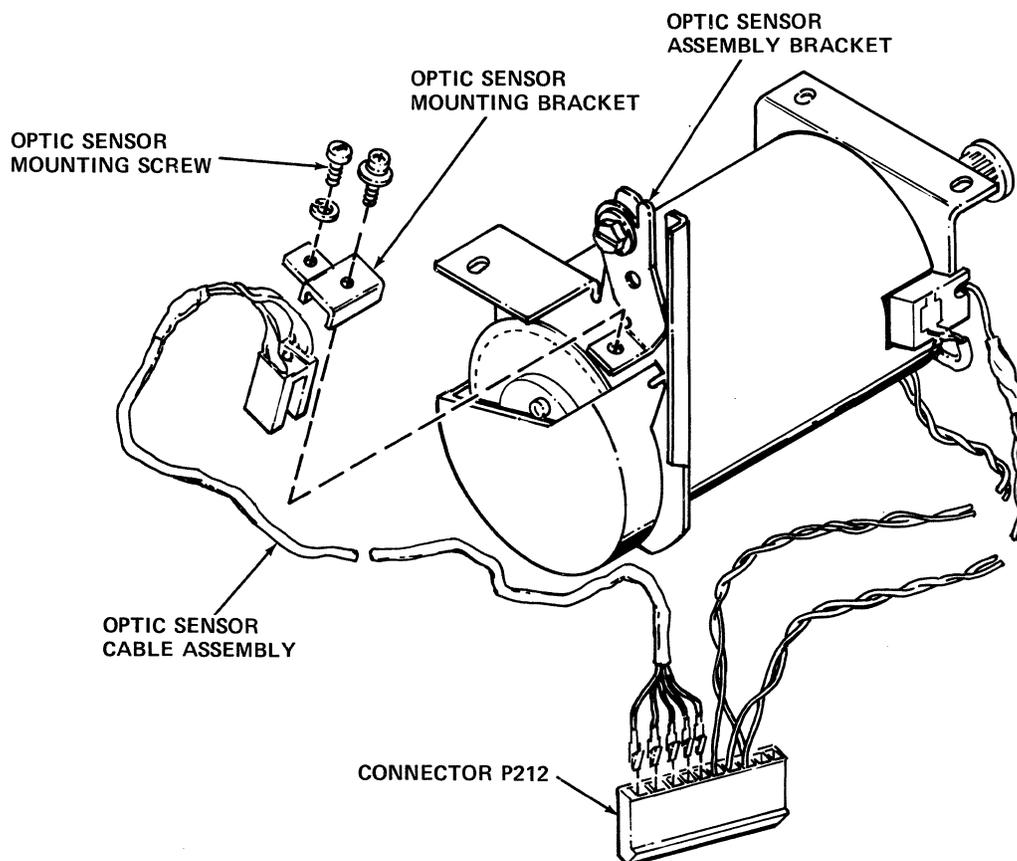

Figure 5-10 Removal/Replacement, Optic Sensor Assembly
The optic sensor assembly, item 1 of Figure 5-10, is attached to the carriage drive motor and is removed using a Phillips head and a flatblade screwdriver. To remove the optic sensor assembly, refer to Figure 5-10 and perform the following steps: